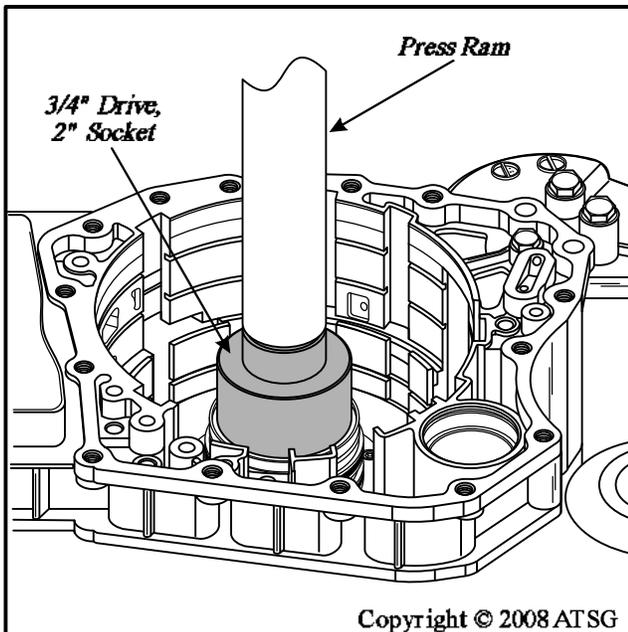

Figure 66
2. A press is then required to remove assembly from the case, using a 3/4" drive, 2" socket to press against support, as shown in Figure 66. **Caution: Ensure that you press against the support, as shown in Figure 66. Special tools are not yet available from dealer and some must be manufactured, which we will discuss later in this manual.**